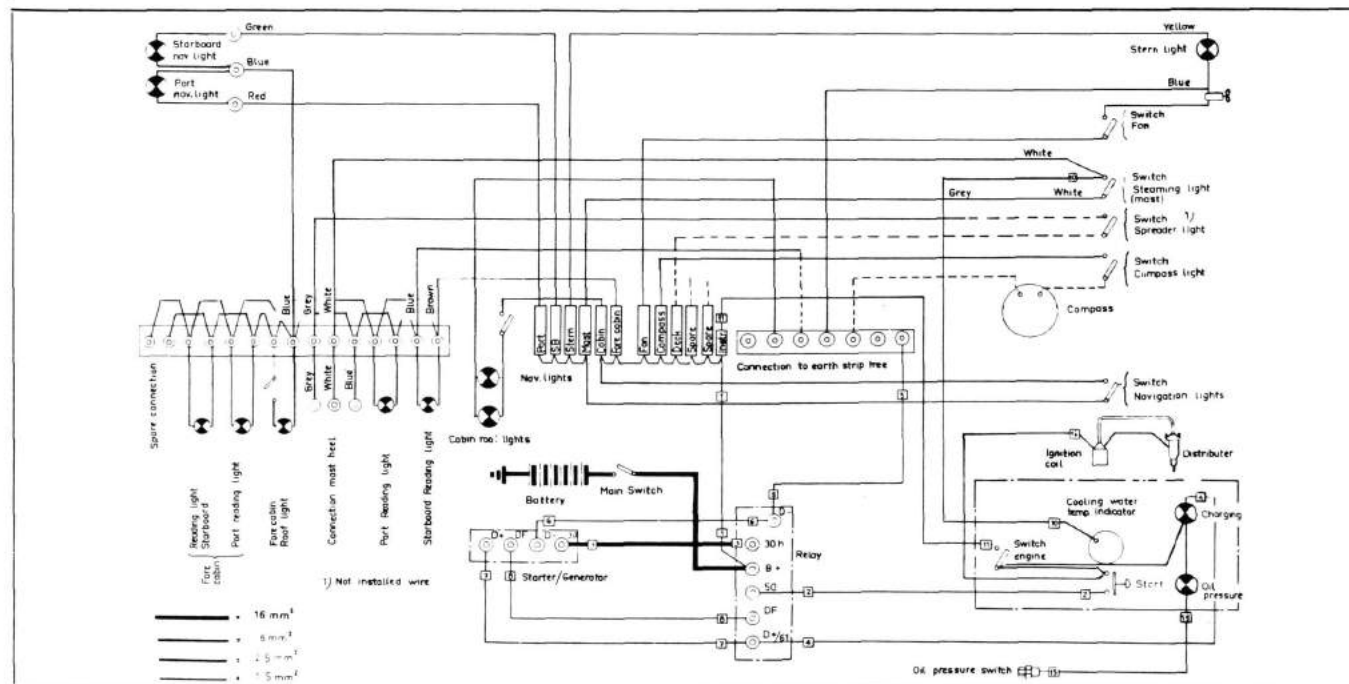

Fig. 25. Circuit diagram for VEGA — ALBIN O-22 with battery ignition and starter/generator.
The 12 volt electrical system circuit diagrams are shown in fig. 25 and 26. Some electric wires are led through conduits in the deck, see fig. 4. With engine ALBIN O-22 the battery capacity is 60 ampere hours. With engine MD 6A the VEGA electrical system has two separate battery circuits, one 34 Ah starter battery charged by the engine starter generator (DC) and one 60 Ah lightning battery charged by the alternator (AC).